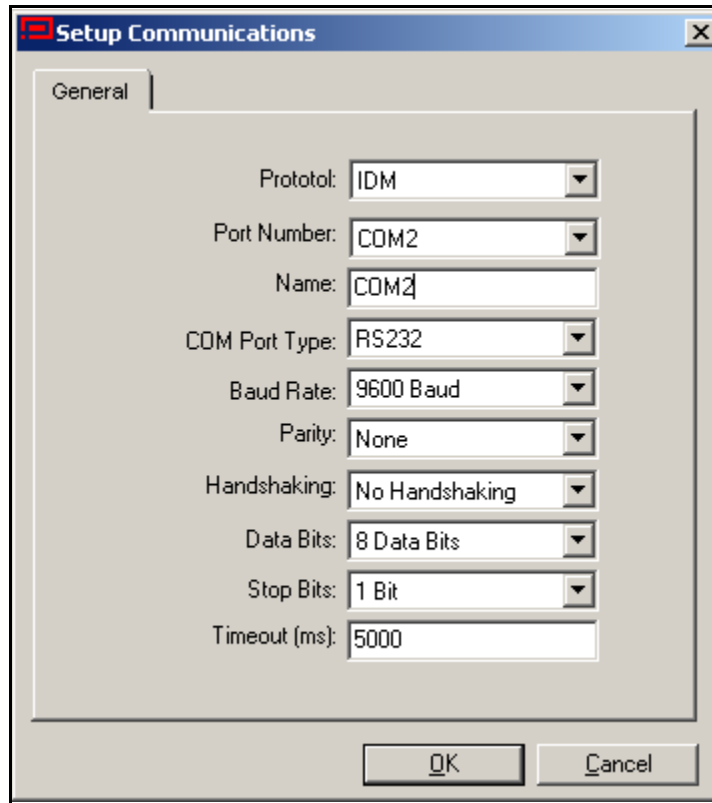

Figure 78: Setup Communications Screen
4. Click on the “*Communications Port*” option to select it. The *Setup Communications* screen appears similar to *Figure 78* below.